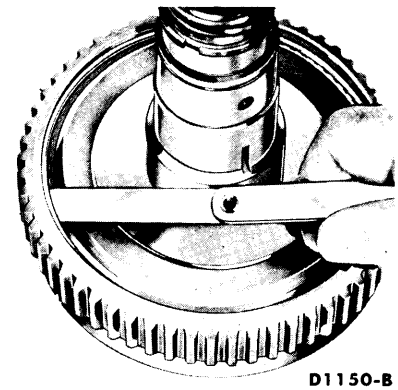

FIG. 17—Checking Output Shaft Snap Ring Clearance
6. If either the output shaft or ring gear has been replaced, place the assembled unit with the gear face down on the bench, push the shaft downward, and check the clearance between the top of the snap ring and its groove (Fig. 17). If this clearance exceeds 0.002 inch, replace the snap ring with a thicker ring to reduce the clearance to less than 0.002 inch. Selective snap rings are available in several thicknesses for this purpose.